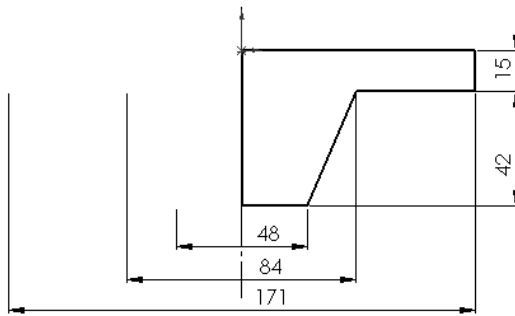

Figure 9-54 Sketch for the base feature
- Create the base feature of the model by revolving the sketch along the central axis of the sketch, refer to Figures 9-54 and 9-55.
2. Invoke the **Revolved Boss/Base** tool and draw the sketch of the base feature on the **Front Plane**. Add the required relations and dimensions to the sketch, as shown in Figure 9-54.